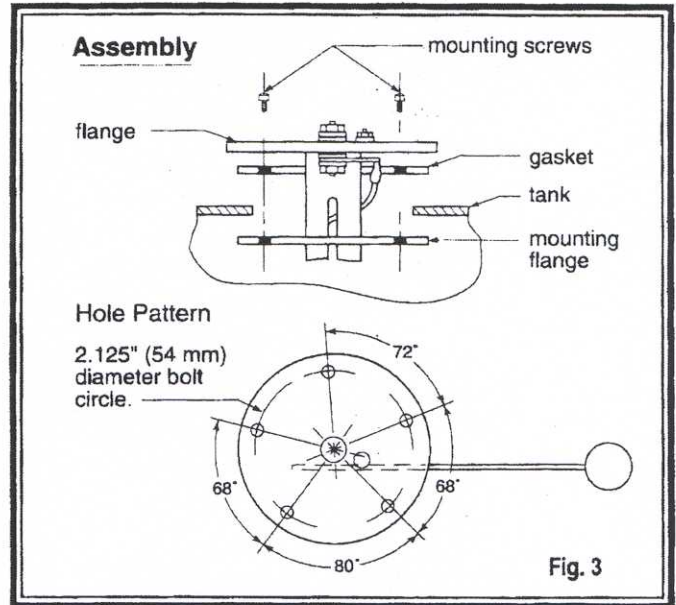

Fig. 3
V. Refer to Figs. 3 and 4 for installation of the fuel sender assembly into the tank. The sender flange is designed to fit a standard SAE hole pattern.